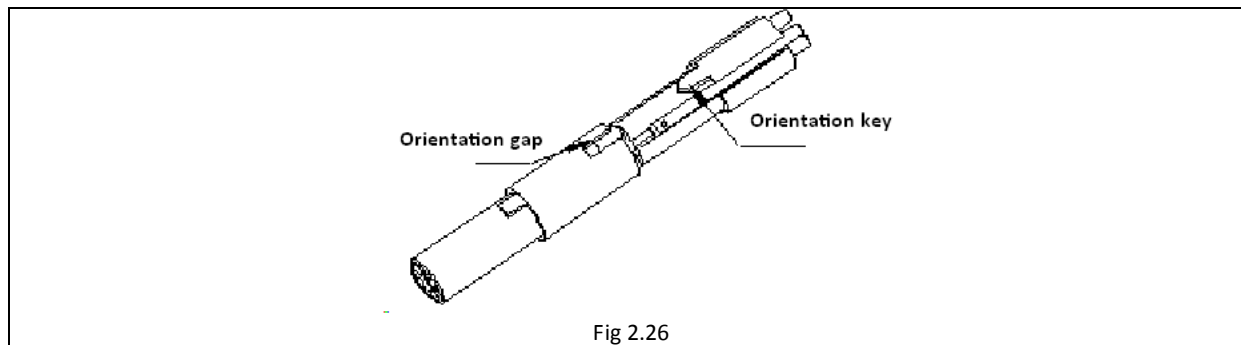

Fig 2.26
- 3) Orientation key for crimp insulator must be mated with the orientation gap of the socket insulator, as fig 2.26 shown;